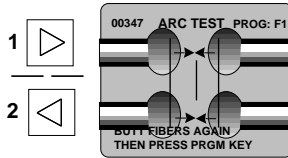

Figure 64
- d) Press the left and right Fiber Position keys to butt the fibers together (just touching) at the center line (Figure 64).